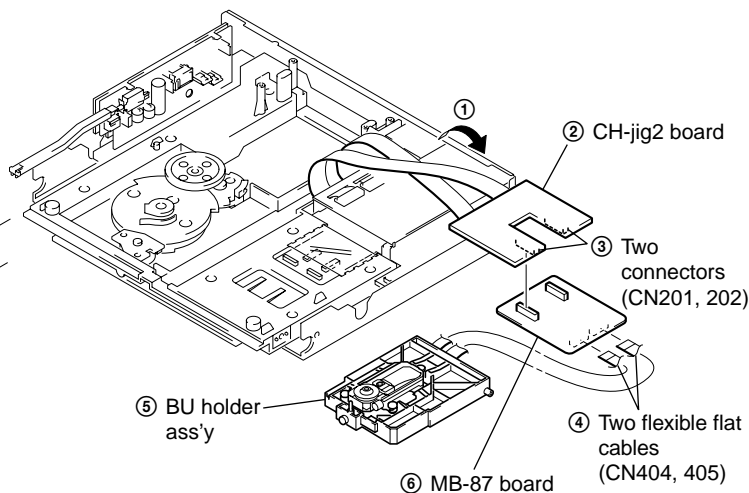

Fig. 3
- 9) Set the MB-87 board as shown Fig. 3.